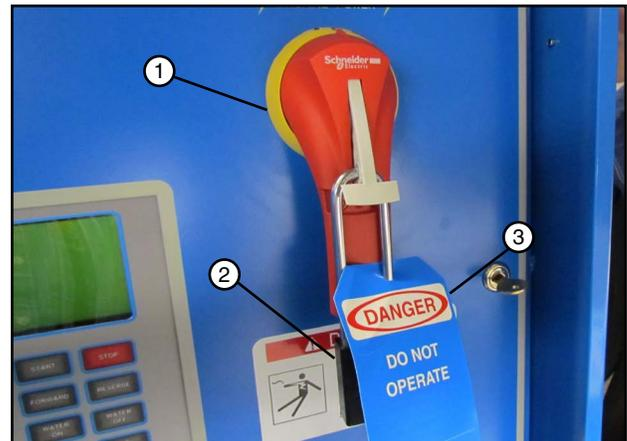

Figure 63-2 1. Main Disconnect
2. SHUT OFF and lock the control panel main power disconnect. See Figure 63-2.
FILL OUT the blue (OSHA safety color code) tag and attach to the disconnect after locking. See Figure 63-2.